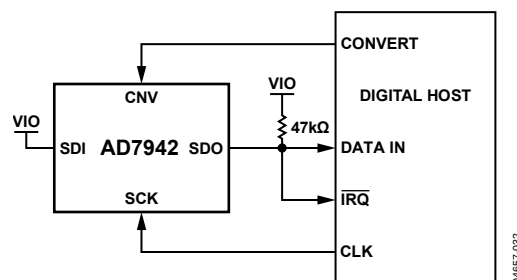
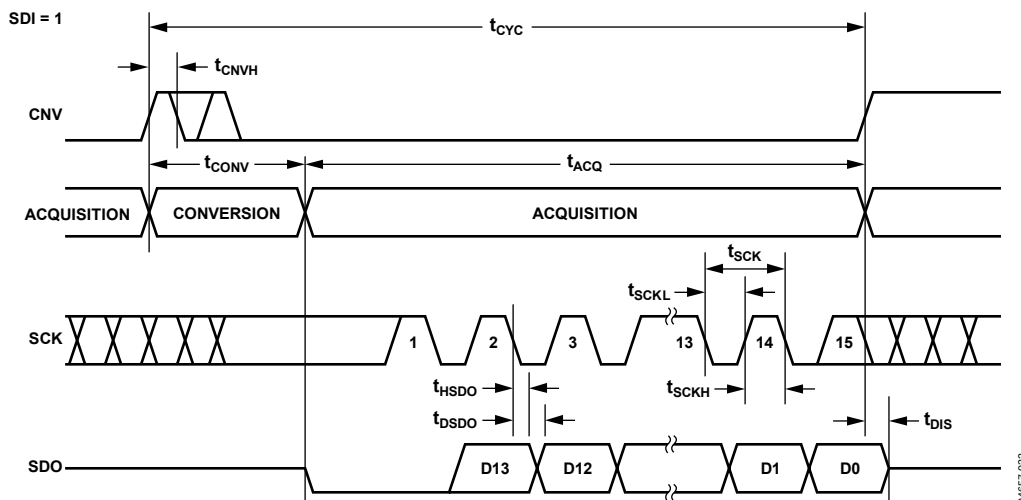
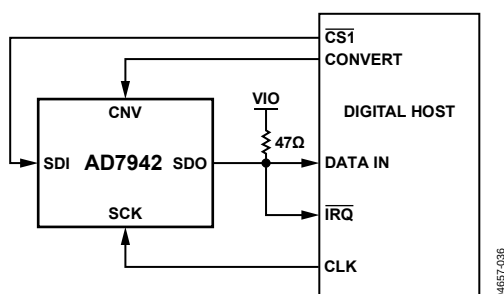
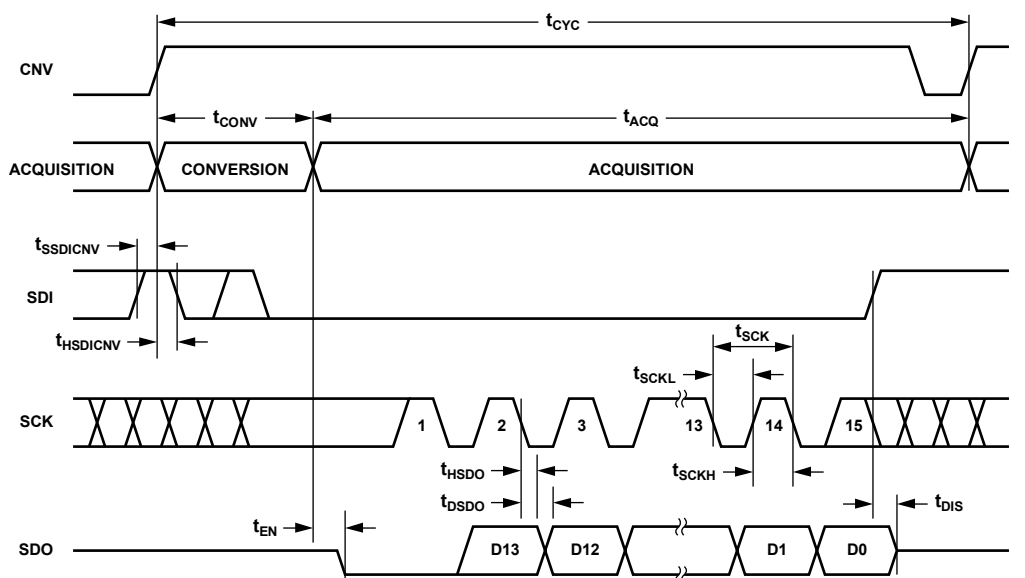

Figure 32. $\overline{CS}$ Mode 3-Wire with Busy Indicator Connection Diagram (SDI High)
Figure 33. $\overline{CS}$ Mode 3-Wire with Busy Indicator, Serial Interface Timing (SDI High)
Figure 36. $\overline{\text{CS}}$ Mode 4-Wire with Busy Indicator Connection Diagram
Figure 37. $\overline{\text{CS}}$ Mode 4-Wire with Busy Indicator, Serial Interface Timing
- In the $\overline{\text{CS}}$ mode, if CNV or SDI is low when the ADC conversion ends (see Figure 33 and Figure 37).
This mode is most often used when a single AD7942 is connected to an SPI-compatible digital host with an interrupt input. The connection diagram is shown in Figure 32 and the corresponding timing diagram is shown in Figure 33.
This mode is most often used when a single AD7942 is connected to an SPI-compatible digital host with an interrupt input and to keep CNV (which is used to sample the analog input) independent of the signal used to select the data reading. This requirement is particularly important in applications where low jitter on CNV is desired. The connection diagram is shown in Figure 36 and the corresponding timing diagram is given in Figure 37.